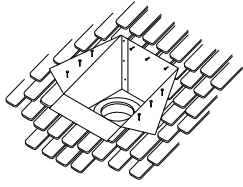

Figure 21
portion projects at least 2" below the finished ceiling and rafters (bottom of round portion is 5" below, **Fig.7**), and extends above the ceiling to framing or decking materials to which it can be nailed. Level the Support Box, and slit the corners to the roofline where they extend beyond it. Bend the flaps (created by the slitting) flush with the roof, and nail the Support Box to the roof or framing with at least three (3) 8-penny nails, or (3) 1-1/2", #8 screws, per side (**Fig.21**). Be sure to keep the Support Box level. Screw the trim sections into the ceiling (**Fig.9**). Refer to step 3-A of the Ceiling Supported Installation instructions if you choose to insulate the Support Box.